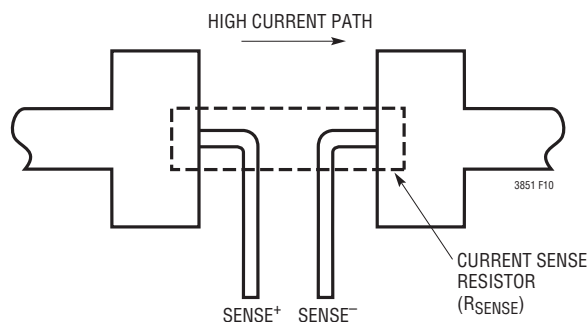

Figure 10. Kelvin Sensing R_{SENSE}
3. Are the $SENSE^-$ and $SENSE^+$ leads routed together with minimum PC trace spacing? The filter capacitor between $SENSE^+$ and $SENSE^-$ should be as close as possible to the LTC3851. Ensure accurate current sensing with Kelvin connections as shown in Figure 10. Series resistance can be added to the SENSE lines to increase noise rejection and to compensate for the ESL of R_{SENSE} .